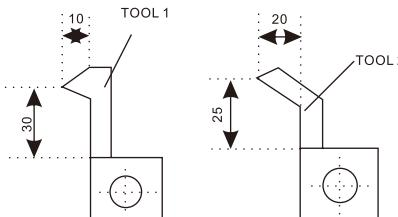

Figure 6-1
2. According to the size of TOOL1 and datumTOOL, determine the position of TOOL relative to zero of absolute coordinate and datum tool. As Figure 6-1. The relative size of TOOL 2 is as follows X axis 25-30=-5, Z axis 20-10=10.